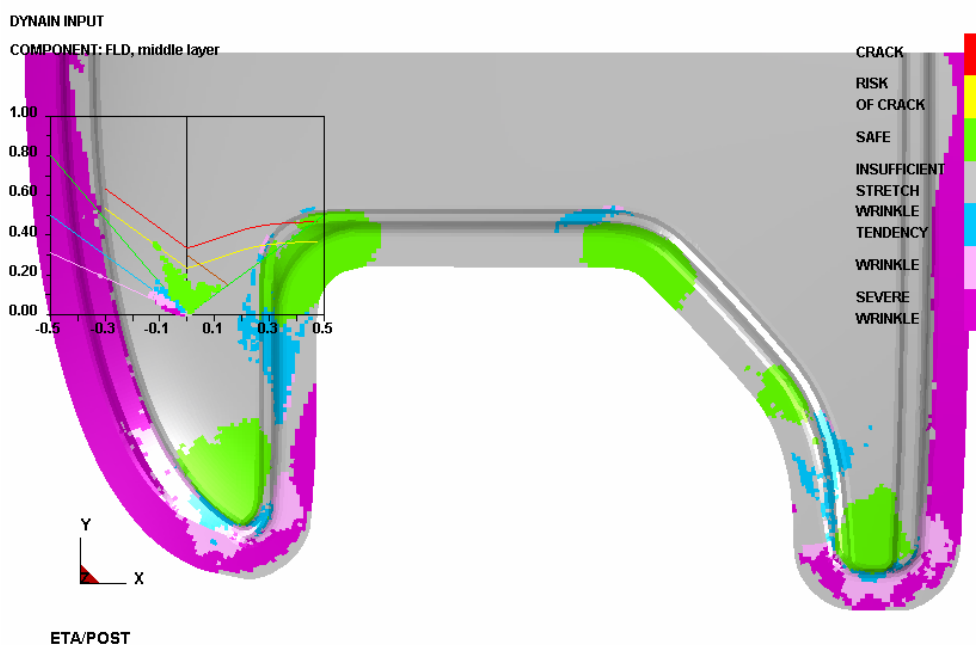

Figure 3.40: Illustration of FLD result
- 5) Click “**PLOT**” to plot the forming limit diagram of the formed component, as shown in the following figure 3.40.